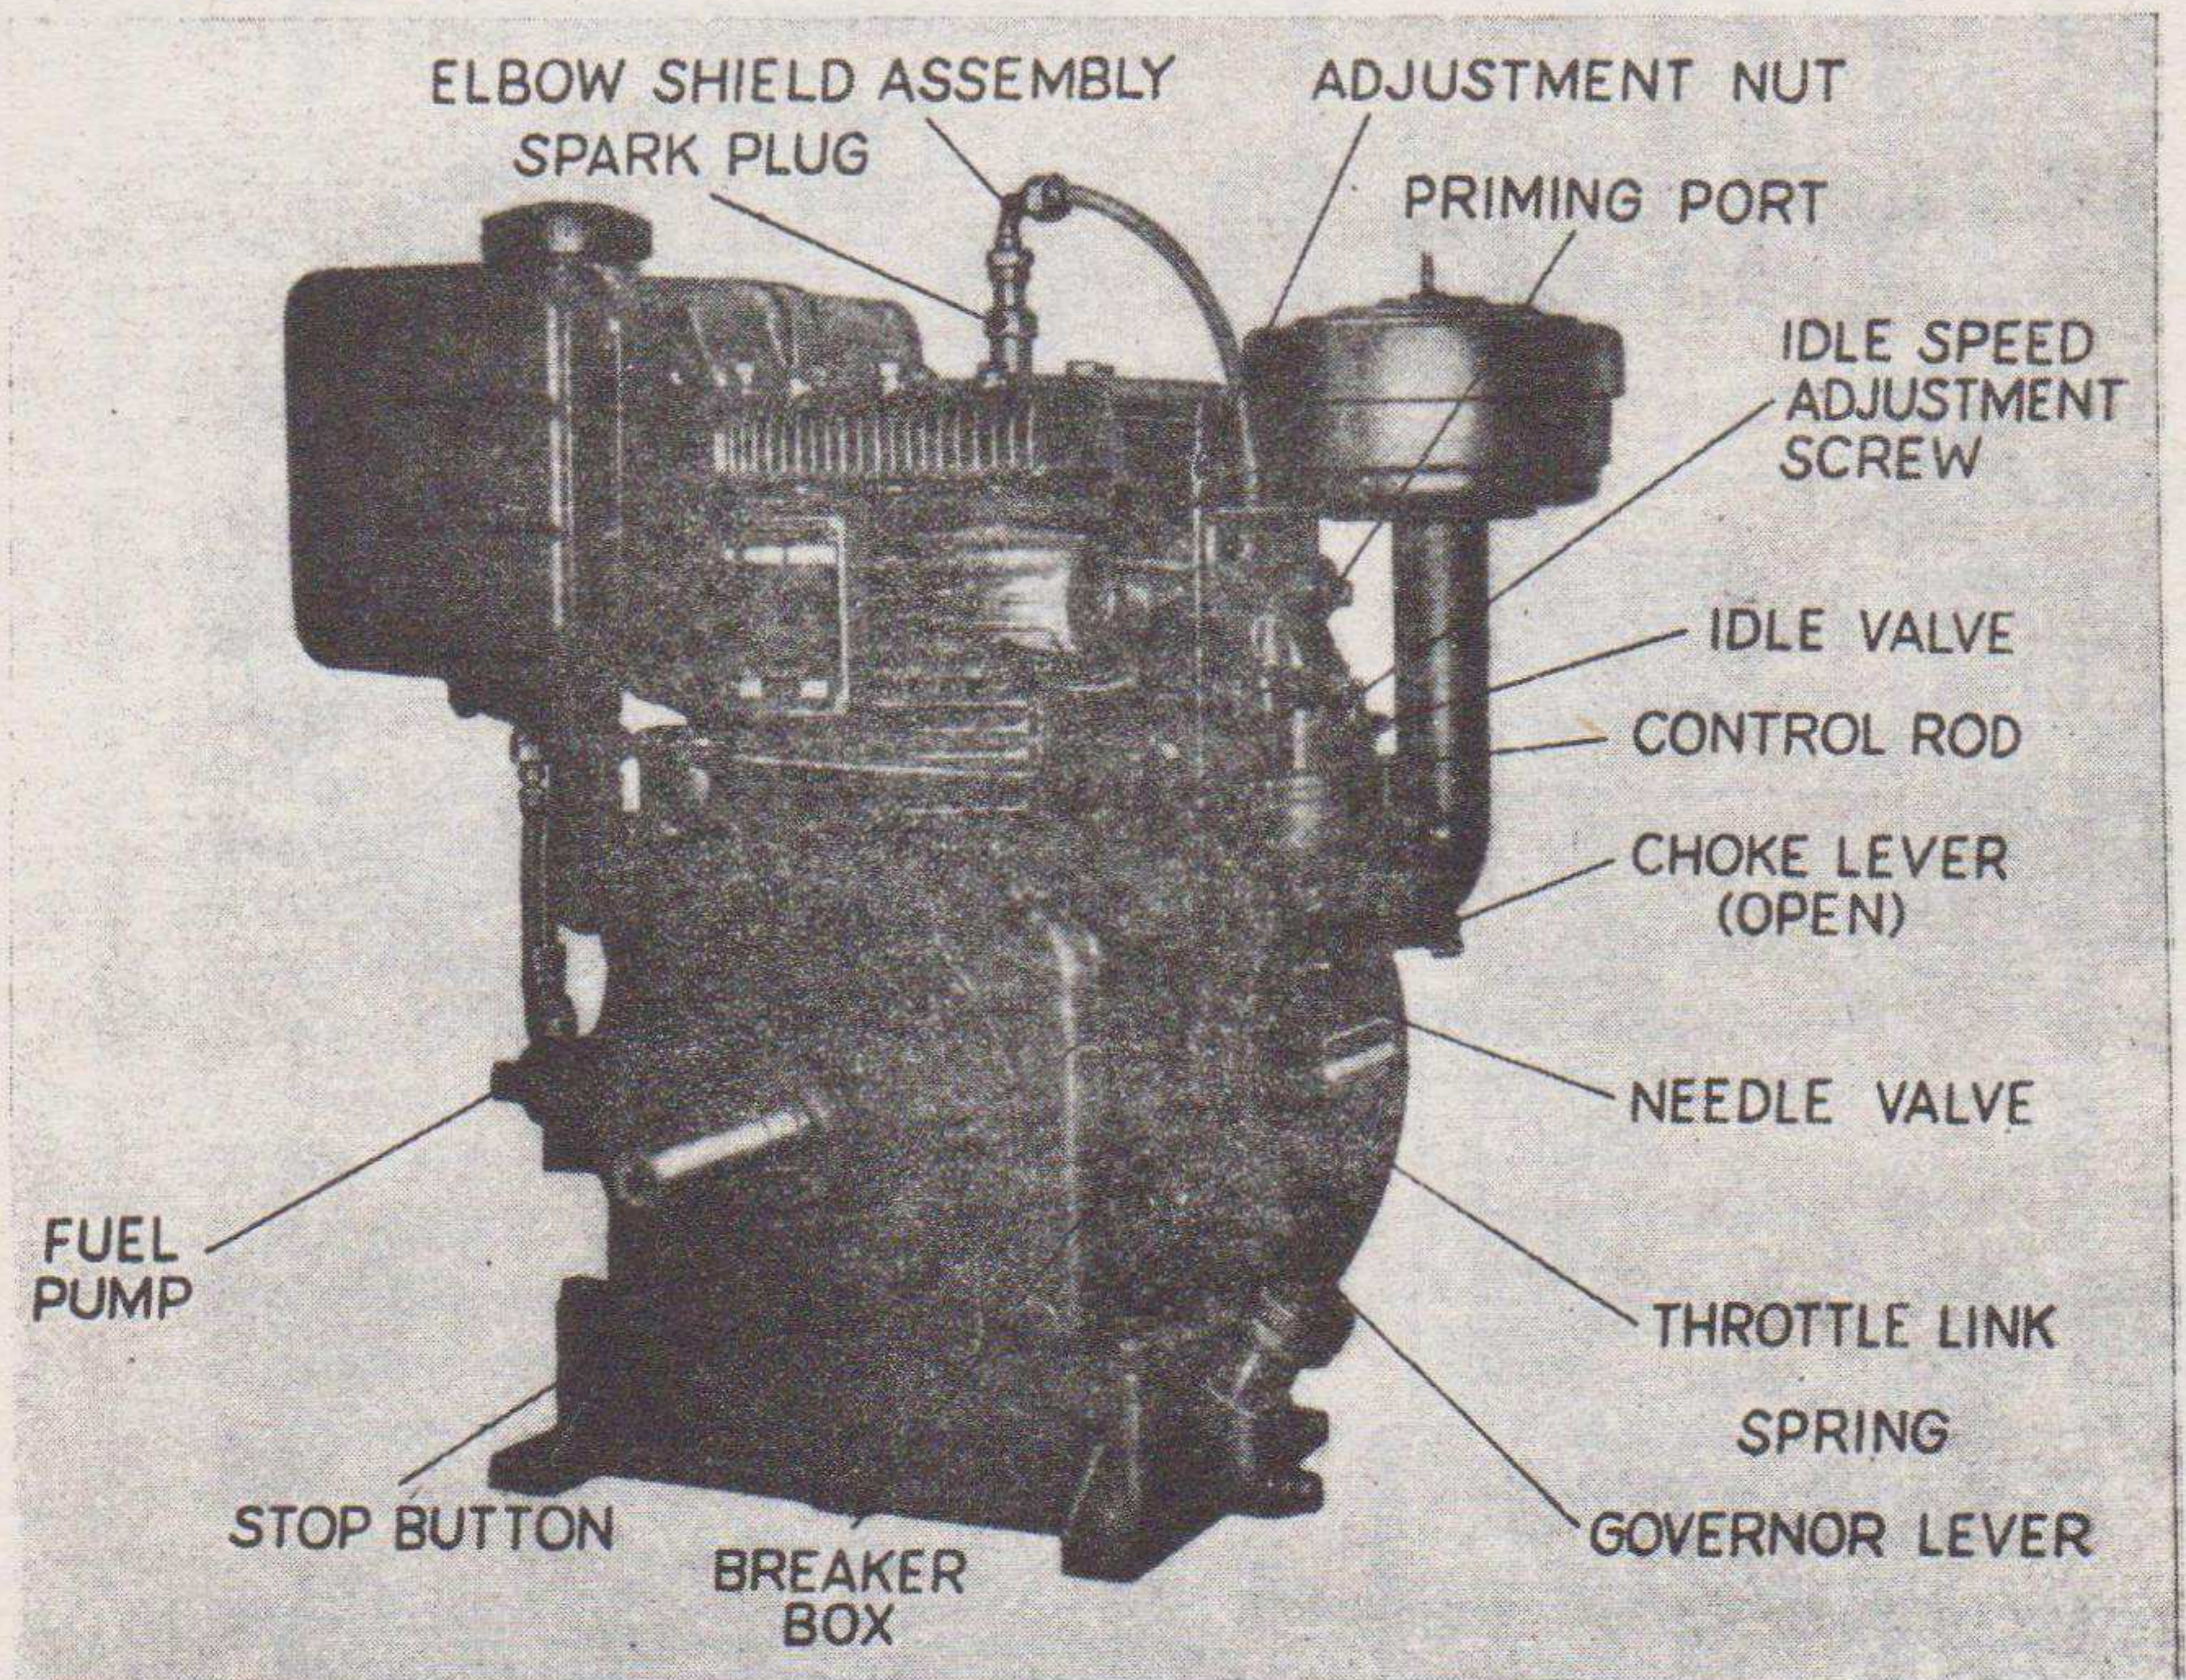

Figure 4. Gasoline Engine PD-31/U-GY.
a. *Gasoline Engine PD-31/U* (fig. 4). Gasoline Engine PD-31/U is a single-cylinder, four-stroke cycle, L-head, air-cooled gasoline engine. It has a 3-inch bore, a 3¼-inch stroke, and develops 6.5 hp at 2,800 rpm. This